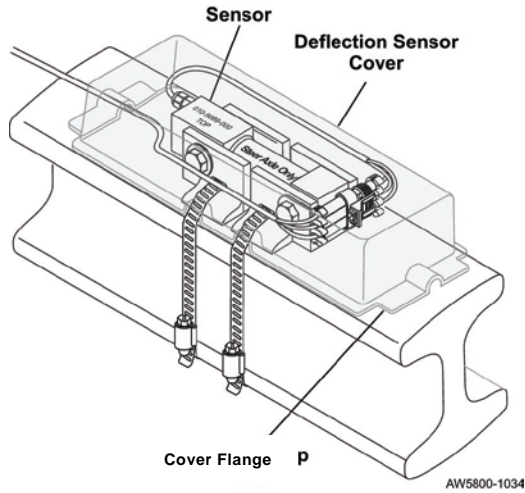

Figure 17. Placing the Cover Over the Deflection Sensor Assembly
1. Mount the cover on top of the sensor and sensor brackets so that the sensor cable is completely under the cover. The bracket band clamps should emerge from the cover's side ports. See Figure 17.